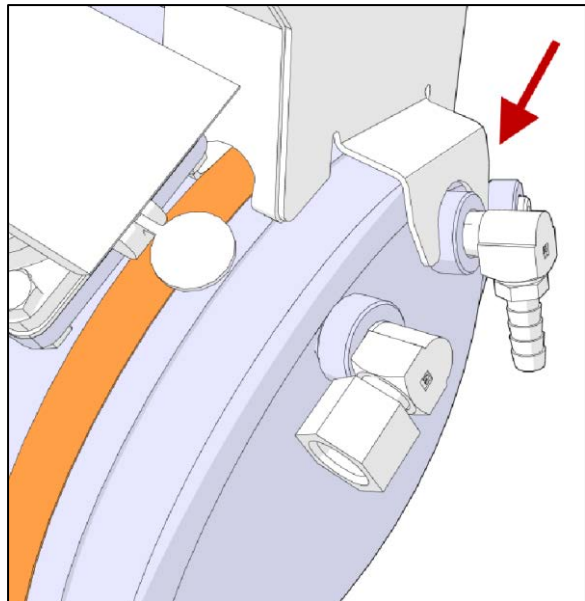

Figure 24
27. Move the tank toward the right until it touches the support tab (Figure 24).